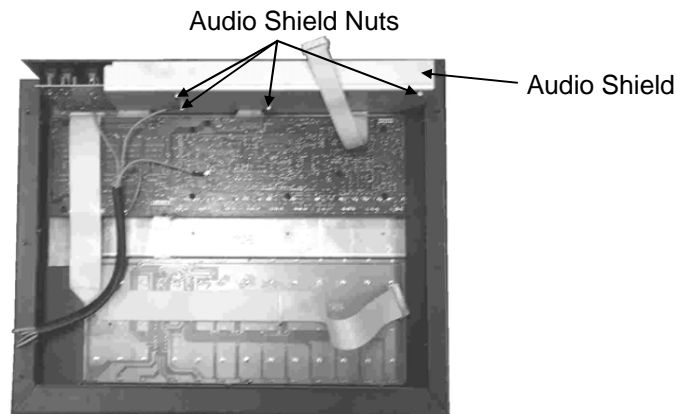

fig.17
- 1) Remove the 4 nuts from the Audio Shield (see fig.17), retaining the crinkle washer. Remove Audio shield.